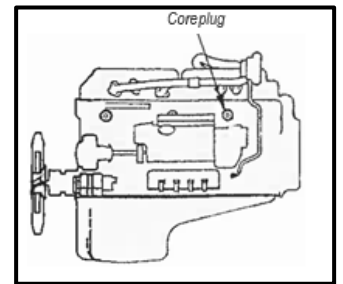

Figure 1
2. Remove threaded core plug on left rear (driver's side) of engine--see Figure 1. The intake piping may have to be loosened and/or removed to gain adequate access to the core plug.